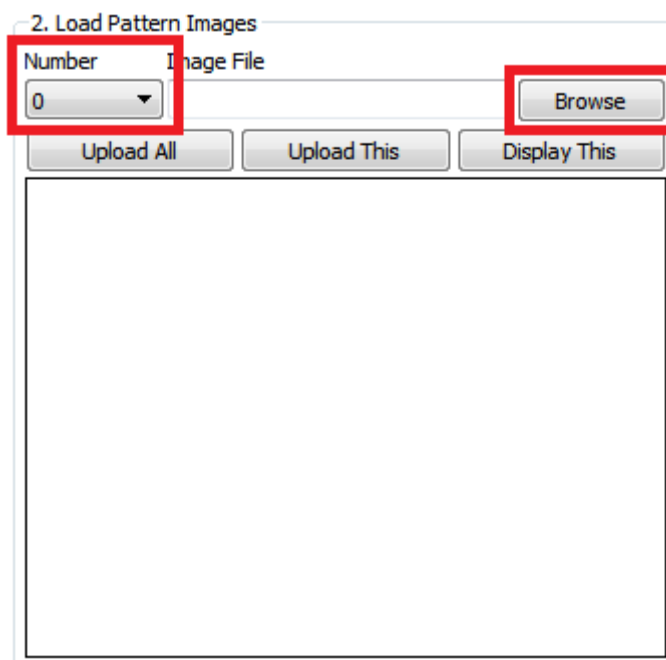
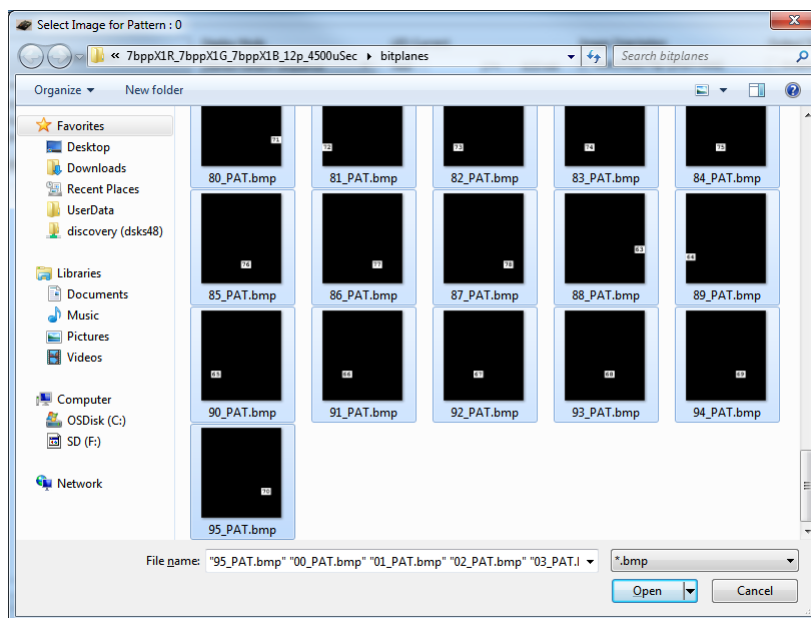

Figure 2-39. DLP LightCrafter GUI Load Pattern Images
Figure 2-40. DLP LightCrafter GUI Select Images Window
- Click the Browse button to select the number of bitmap patterns matching the bit depth and number previously set. See Figure 2-39 and Figure 2-40.